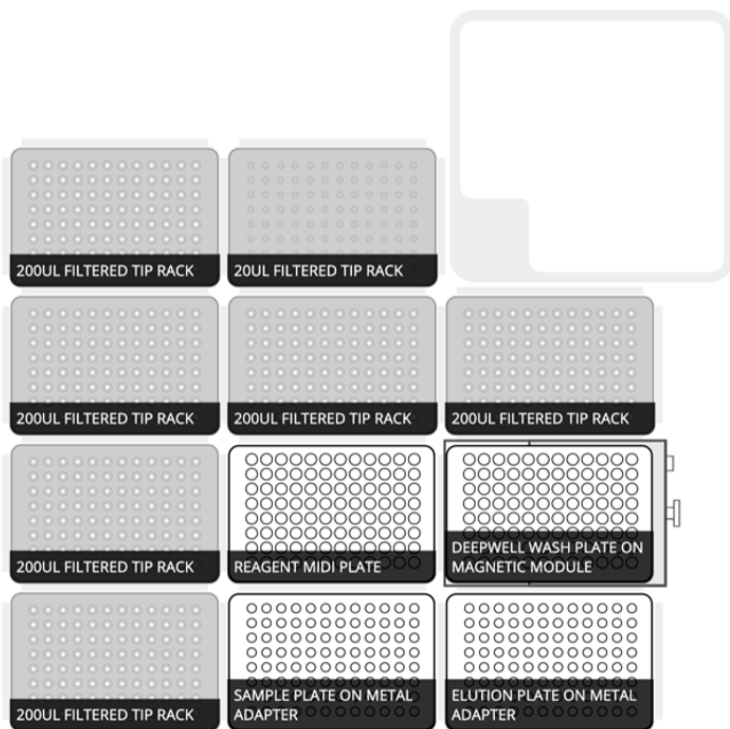

Figure 6. Deck map for Post 3 – Normalization protocol.
- i. Load reagents and other labware onto the deck as shown in the deck map (also shown in Figure 6).